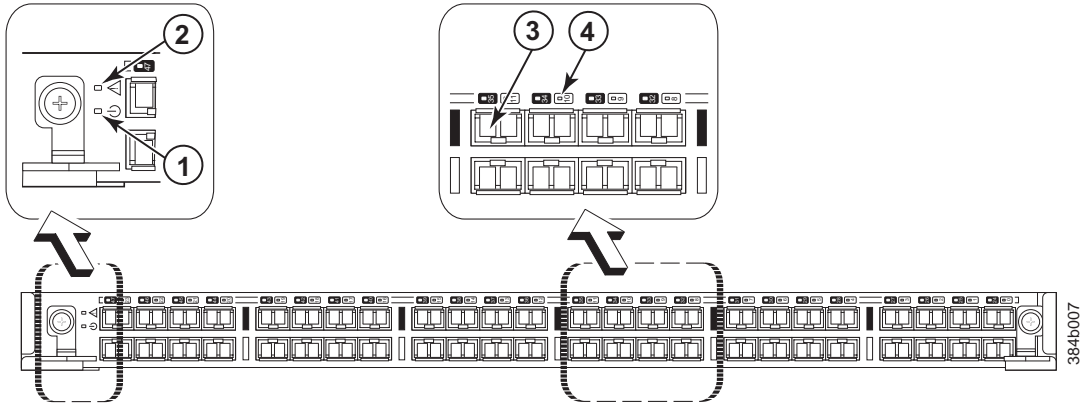

Figure 20. FC8-48 port blade
- Figure 20 on page 47 illustrates the FC8-48 port blade